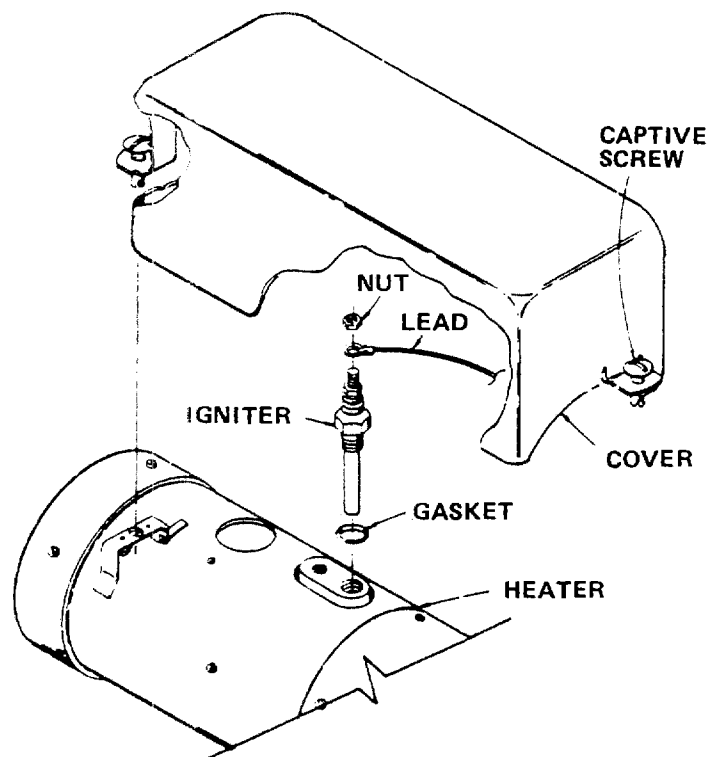

Figure 5-4. Fuel Burning Winterization Kit, Igniter Replacement
5-13. IGNITER ASSEMBLY. The following paragraphs provide inspection and replacement procedures for the heater igniter assembly (see figure 5-4).
- b. Replace. Refer to figure 5-4 and proceed as follows:
- (1) Release two captive screws to remove protective cover.
- (2) Lift off cover, then remove nut and lead from igniter.
- (3) Remove gasket.
- (4) Install new gasket and igniter, then reinstall lead and securely tighten nut.
- (5) Reinstall protective cover by tightening two captive screws.